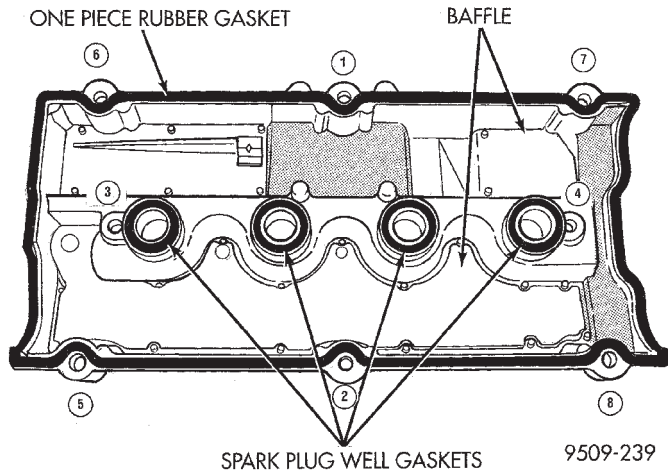

Fig. 19 Cylinder Head Cover and Gasket
- (2) Remove the cylinder head cover fasteners (Fig. 19).
- (3) Remove cylinder head cover from cylinder head.
- (2) Apply Mopar Silicone Rubber Adhesive Sealant at the camshaft cap corners and at the top edges of the 1/2 round seal.
- (3) Install cylinder head cover assembly to head and tighten fasteners in sequence shown in (Fig. 19). Using the 3 step torque method:
- (4) Install ignition coil pack. Tighten fasteners to 12 N·m (105 in. lbs.).